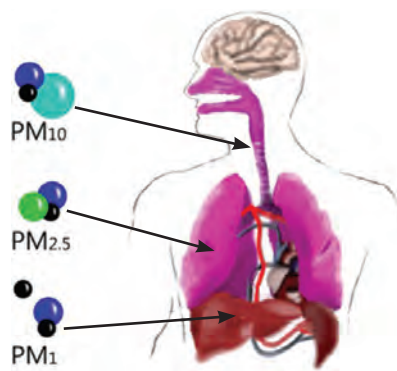

Fig.10: Particles less than or equal to 10 micrometers in diameter can get into the lungs.
**Note:** Particle pollution, also called particulate matter or PM, is a mixture of solids and liquid droplets floating in the air. Particles less than or equal to 10 micrometers in diameter are so small that they can get into the lungs, potentially causing serious health problems (Fig.10).